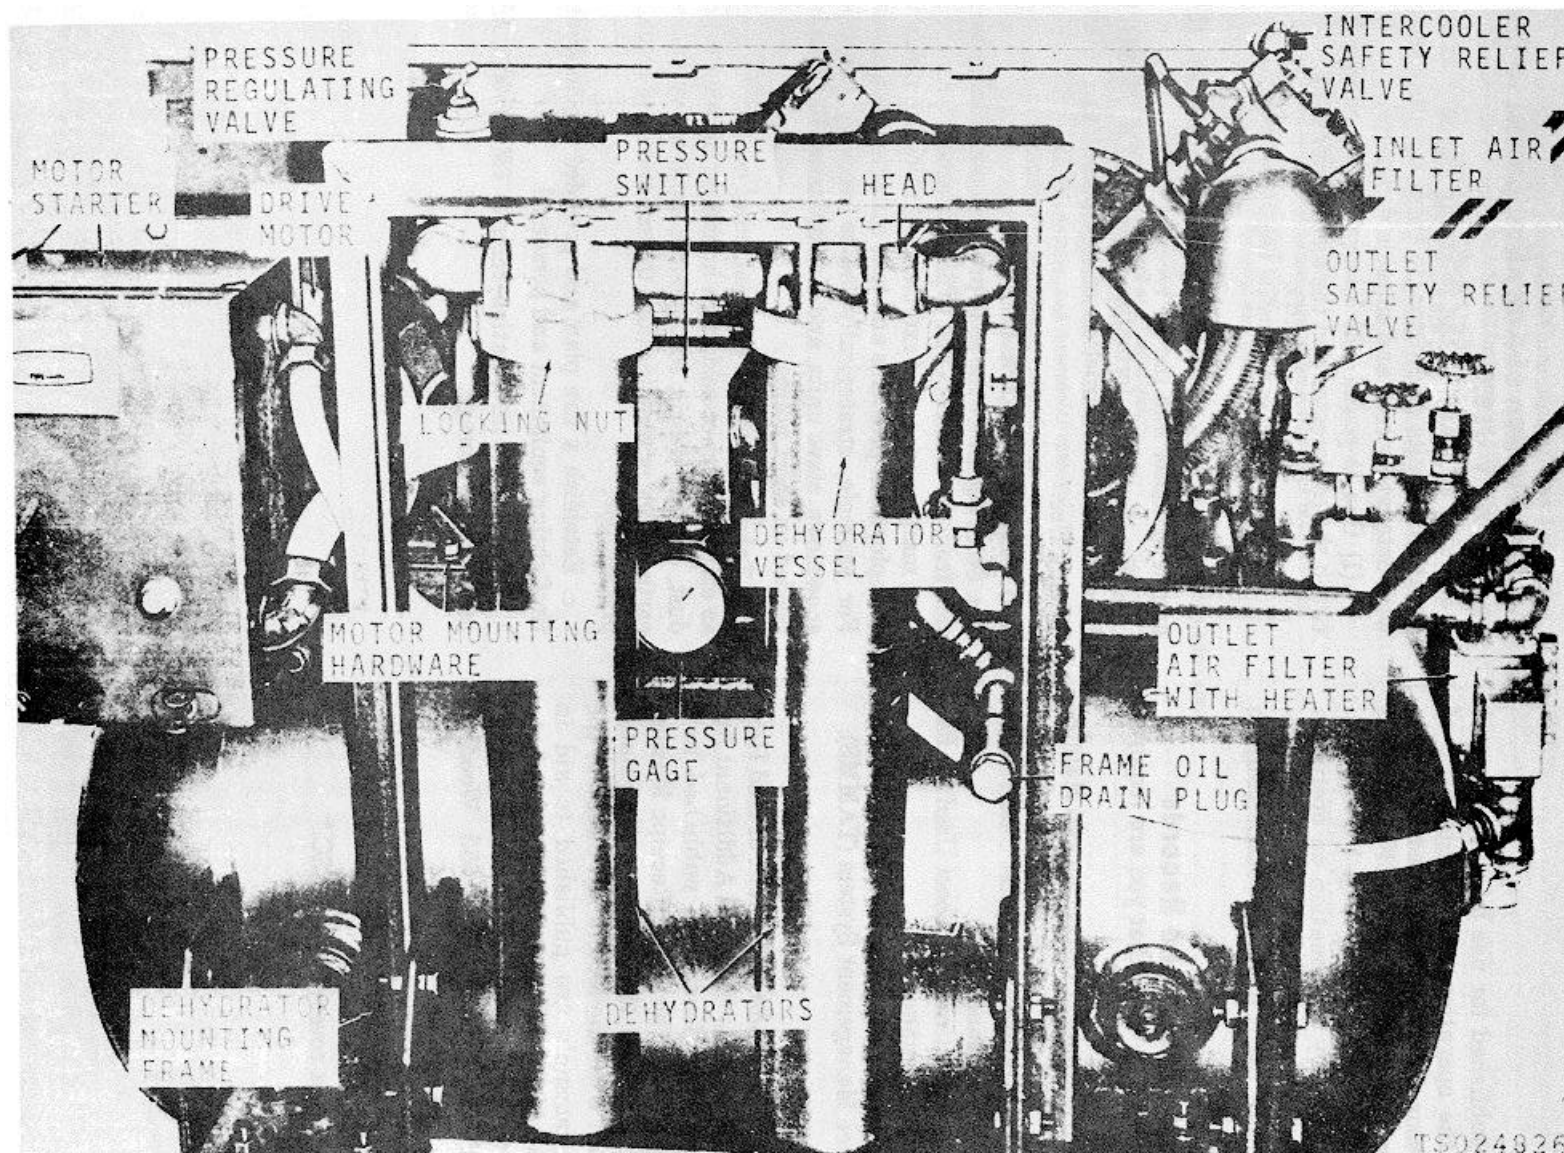
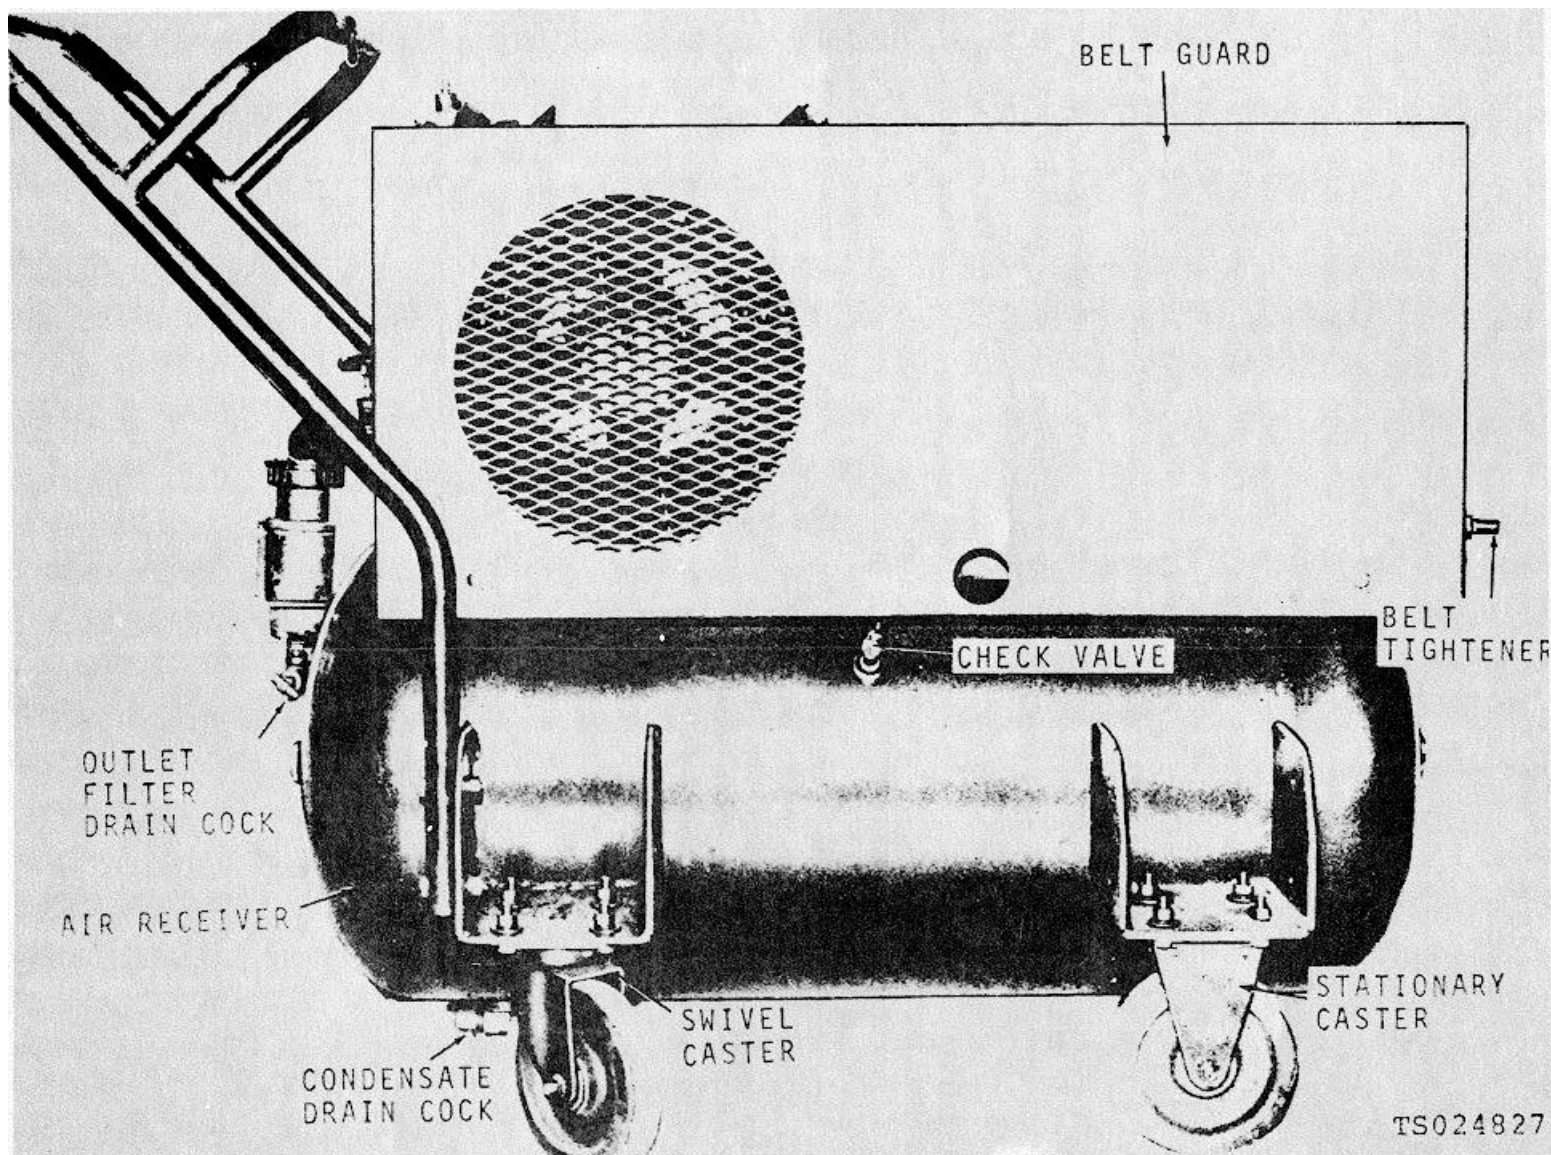

Figure 1-1. Air compressor, front view.
Figure 1-2. Air compressor, rear view.
This manual is published for use by the personnel responsible for the operation and maintenance of the Air Compressor, Reciprocating, Electric Motor Driven, Receiver Mounted, 2 H. P., 5 CFM, 175 PSI (Ingersoll-Rand Model CM234F2) (Fig. 1-1 and 1-2). It provides all necessary information on operation and maintenance of the equipment, with description and function of main units in relationship to other components.
The 2 HP Electric Motor Driven Air Compressor, Model CM234F2, is a two-stage, single acting, air cooled compressor that delivers 5 CFM at 175 PSI. The compressor is equipped with an intercooler of finned tubing between 2nd stage cylinder and the air receiver. The compressed air passing through these tubes is cooled by air drawn in by the fan type spokes of the pulley-flywheel. This causes condensed moisture to form in the receiver, which must be drained manually from the condensate draincock (fig. 1-2) daily. To further dry the compressed air before use, this compressor is equipped with a heated outlet air-filter and two dehydrators in the outlet air line (fig. 1-1). The maintenance paragraphs of this manual contain detailed description of its components.
b. *Motor Starter.* The motor starter (fig. 1-1) must be connected to a controlled power source of 115 volts alternating current. When that power reaches the motor starter, and the ON-OFF switch is moved to ON,
f. *Check Valve.* There is a check valve (fig. 1-2) screwed into the air receiver at the point where the after-cooler line enters the air receiver. This check valve prevents air from receiver returning to the compressor after it has stopped, and the unloaded pilot valve has released all pressure inside the air compressor.